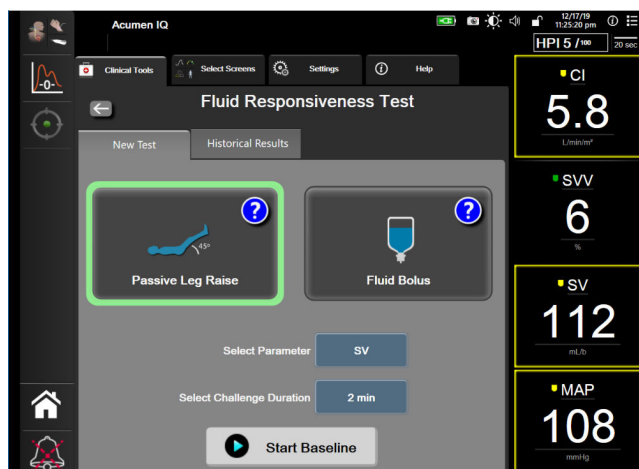

Figure 14-17: Fluid Responsiveness Test – New Test Screen
- On the **New Test** tab (see Figure 14-17 on page 321), touch the desired test type: **Passive Leg Raise** or **Fluid Bolus**.